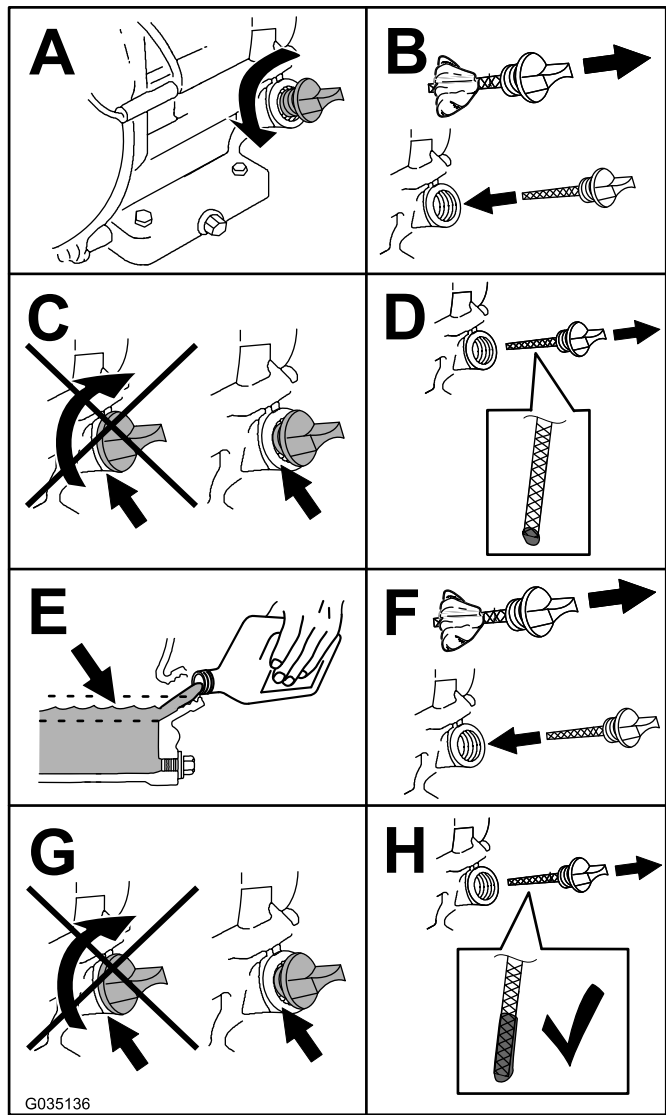

Figure 44
5. Check the oil level as shown in Figure 44.
6. Remove the dipstick (Figure 44) and slowly pour oil into the fill hole until the oil reaches the upper-limit mark (bottom edge of the oil-fill hole) on the dipstick.